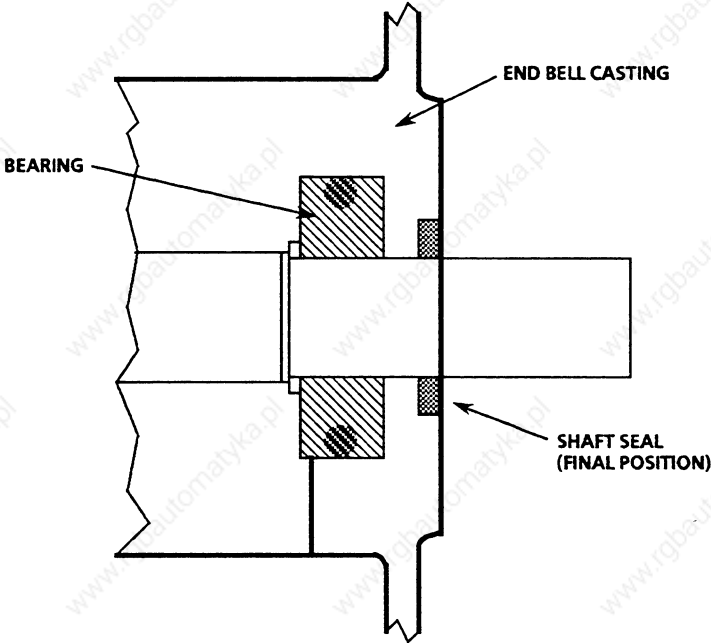

Figure 8.4 – Shaft Oil Seal Installation
2. Place the seal over the shaft (see Figure 8.4). The seal must be installed with the solid shield side facing the motor bearing.